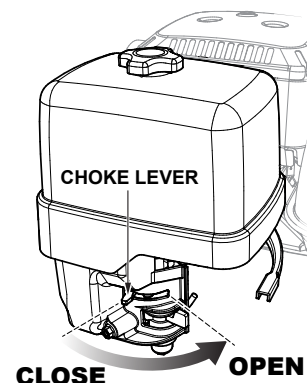

Figure 10. Engine Choke Lever (Open)
5. If starting a warm engine, or if the ambient temperature is warm, place the engine choke lever in the **OPEN** position (Figure 10).
8. If the engine has not started, repeat steps 1 through 7. If the engine has started and the choke lever was moved to the **CLOSED** position to start the engine, gradually move the choke lever to the **OPEN** position (Figure 10).